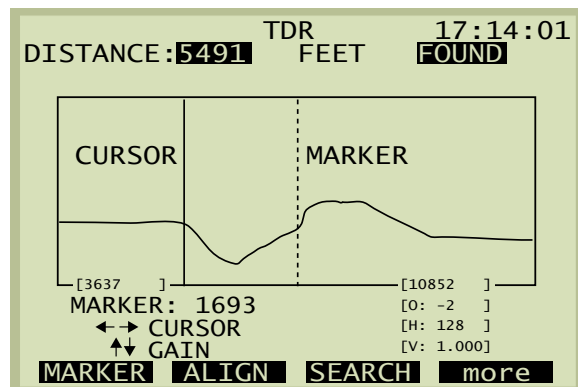

Figure 11 TDR screen, finding the length of a bridge tap
- b. Use the right arrow key to move the dotted line, marker. Position the Marker at the end of the bridge tap. Refer to Figure 11.
- c. The MARKER reading on the graph shows the distance between the Cursor and Marker (1,693 feet in Figure 11).